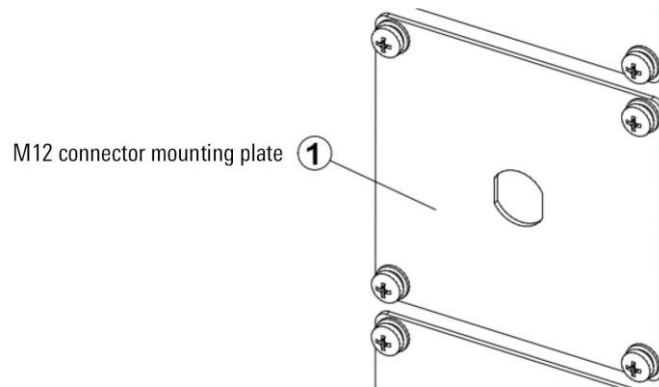

Figure 2-5 M12 connector mounting plate
Step1. Use a Phillips screwdriver to remove the original reserved cable mounting plate (refer to Figure 2-5), and remove the ① M12 connector mounting plate (refer to Figure 2 6) installed on the cabinet.